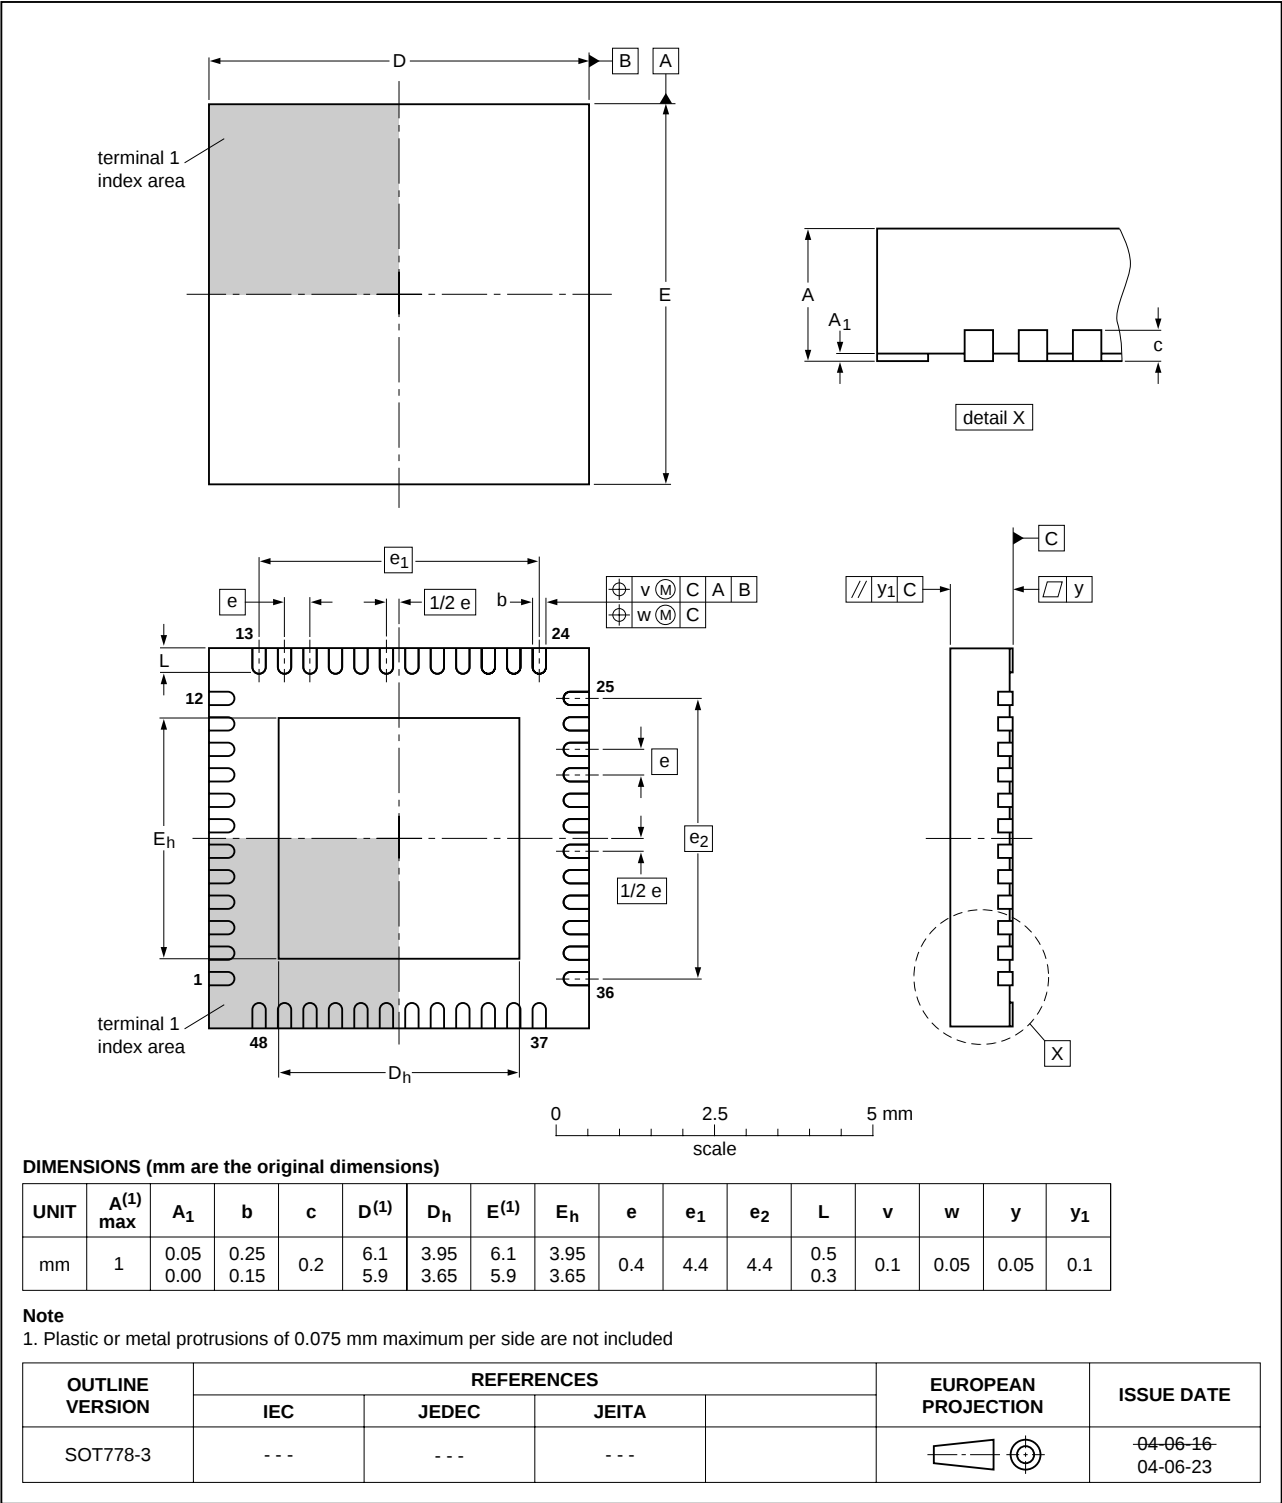
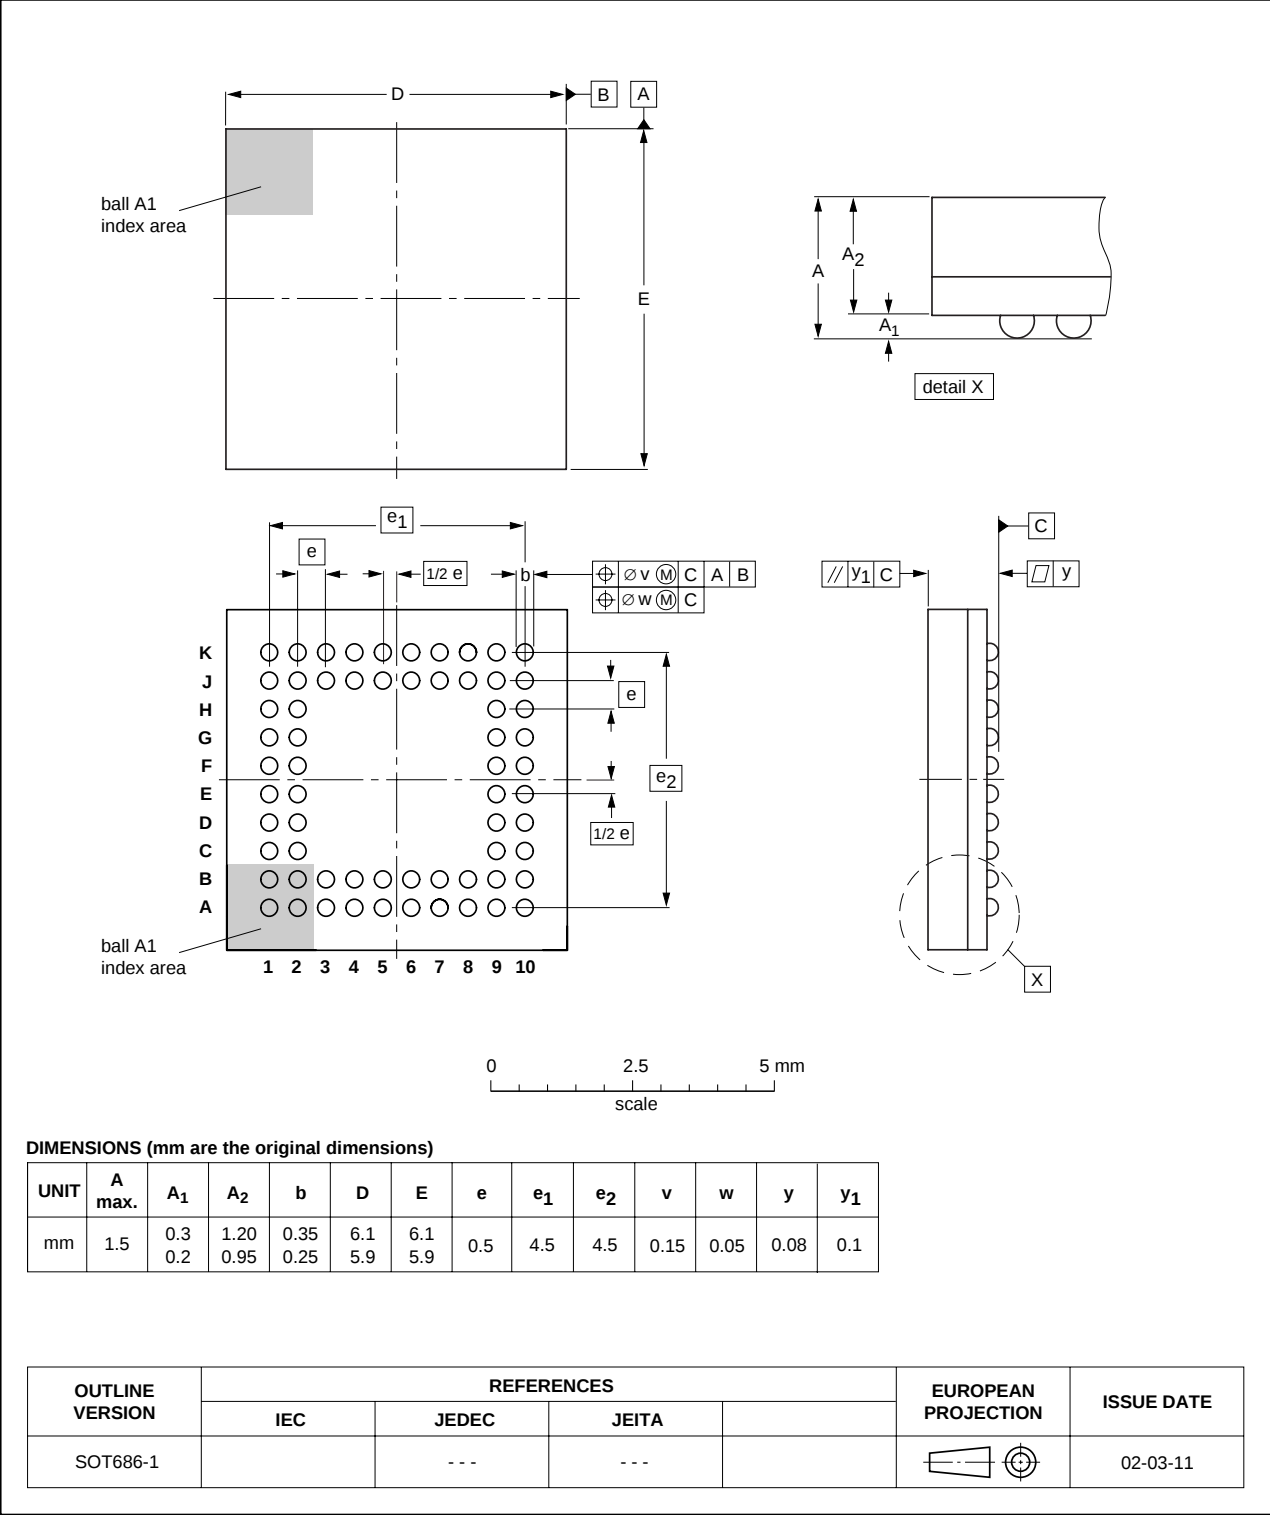

Fig 30. Package outline SOT778-3 (HVQFN48)
Fig 31. Package outline SOT686-1 (LFBGA64)
• Section 1 “General description”: – 2nd paragraph: added 6th sentence. – 3rd paragraph: added HVQFN48 and LFBGA64 package options, and added second sentence. • Table 1 “Ordering information”: added HVQFN48, LFBGA64, and LQFP64 (SOT414-1) package options. • Figure 5 “Pin configuration for LQFP64”: added SC16C654BIBM option • Added Figure 6 “Pin configuration for HVQFN48 (16 mode)”, Figure 7 “Pin configuration for HVQFN48 (68 mode)”, Figure 8 “Pin configuration for LFBGA64” and Figure 9 “Ball mapping for LFBGA64”. • Table 2 “Pin description”: added columns for HVQFN48 and LFBGA64 package types • moved Section 6.1.1 “The 16 mode interface” (was Section 6.2) and Section 6.1.2 “The 68 mode interface” (was Section 6.3) to be sub-sections of Section 6.1 “Interface options” • Section 6.4 “Hardware flow control”: added ‘Remark’ following second paragraph. • Section 6.10 “DMA operation”: added ‘Remark’ following first paragraph. • Table 8 “SC16C654B/654DB internal registers”: added (new) Table note 4 and its reference at FCR[3]. • Table 27 “Static characteristics”: – descriptive line following title: changed ‘V_{CC} = 2.5 V, 3.3 V or 5.0 V ± 10 %,’ to ‘tolerance of V_{CC} ± 10 %;’ – added ‘V_{CC} = ‘ to the limits’ column headings • Table 28 “Dynamic characteristics”: – descriptive line following title: changed ‘V_{CC} = 2.5 V, 3.3 V or 5.0 V ± 10 %,’ to ‘tolerance of V_{CC} ± 10 %;’ – added ‘V_{CC} = ‘ to the limits’ column headings – baud rate divisor Max. columns: changed ‘2¹⁶ – 1 T_{RCLK}’ to ‘(2¹⁶ – 1)’; deleted ‘ns’ from Unit column (N is a number). • Section 11 “Package outline”: added Figure 29 “Package outline SOT414-1 (LQFP64)”, Figure 30 “Package outline SOT778-3 (HVQFN48)”, and Figure 31 “Package outline SOT686-1 (LFBGA64)”. • Added Section 13 “Abbreviations” on page 55 • Section 18 “Trademarks” re-written.